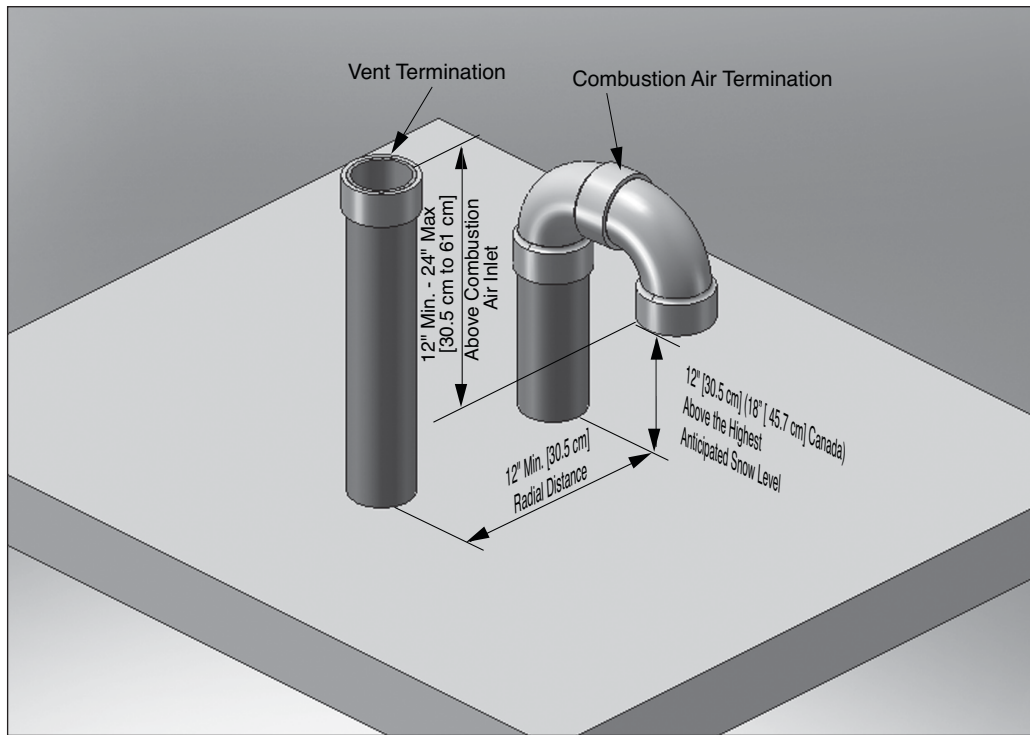

Fig. 1 - Direct Vent - Vertical Termination of Vent and Combustion Air Piping.
2. The combustion air piping must terminate in an upside down “U” shape fashion using two 90° elbows, as shown in *Fig. 1 on page 8*. The termination must be located 12” [30.5 cm] (18” [45.7 cm] Canada) above the highest anticipated snow level.
3. The vent piping must terminate vertically with a coupling to accept the bird screen and must be located 12” to 24” [30.5 cm to 61 cm] above the combustion air inlet as shown in *Fig. 1 on page 8*.
4. The vent and combustion air terminations must be located at a radial distance of 12” to 24” [30.5 cm to 61 cm] from centerline of vent termination to centerline of air termination as shown in *Fig. 1 on page 8*.
3. Locate the vent and combustion air pipe penetrations to provide clearances as described in **Fig. 1 on page 8**.
2. The combustion air piping must terminate in an upside down "U" shape fashion using two 90° elbows as shown in *Fig. 1* on page 8.
3. The vent piping must terminate vertically with a coupling as shown in *Fig. 1* on page 8.
Do not extend the vent pipe above the roof beyond the dimensions shown in *Fig. 1* on page 8. Extended exposure of the vent pipe could cause condensate to freeze and block the vent pipe, resulting in substantial property damage, serious injury, or death